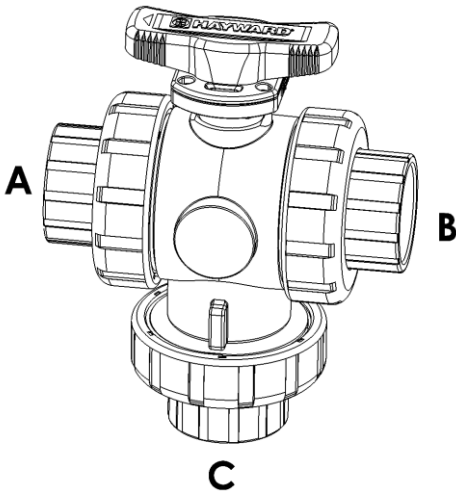

Figure 2: Port Definition
- 2.6.1.2. Port C is a non-sealing port (See Figures 2 & 3).